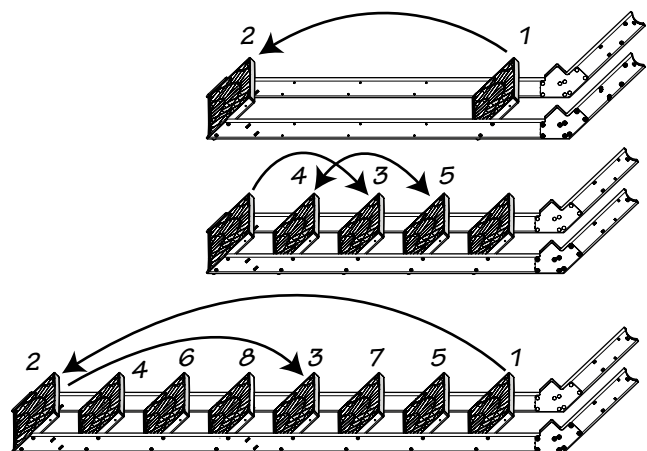

Fig. 6-3
- Follow the simple illustration is shown right in Fig. 6-3.